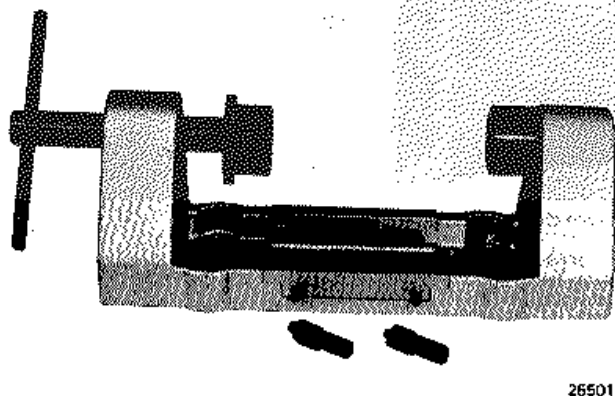

Fig.3-7-Typical Carrier Holding Fixture
2. Place rod and carrier in holding fixture, Fig. 3-7, and remove piston pin bolts. This fixture has mandrel(s) which fits in the piston pin bore to hold the pin while the rod bolts are removed. It must be securely mounted on a work surface. If fixture is unavailable, a vise having copper protected jaws may be used to hold the